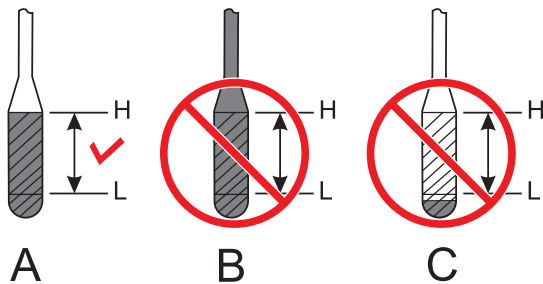

Figure 25. Engine Oil Dipstick
3. Reinsert the dipstick, then remove the dipstick from its holder. Check the oil level shown on the dipstick (Figure 25).